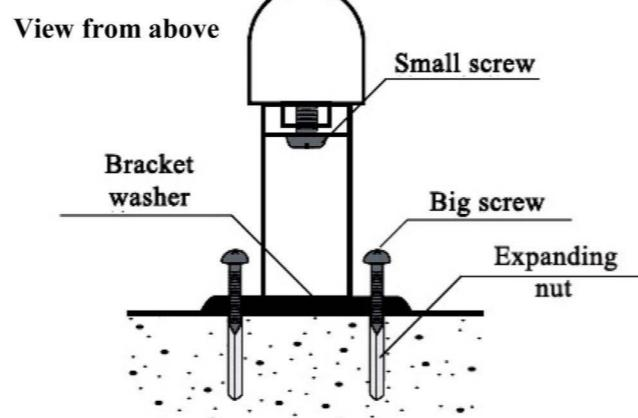

Figure 3
- Place the bracket washers between the wall brackets and the wall to avoid water leakage (see figure 3)